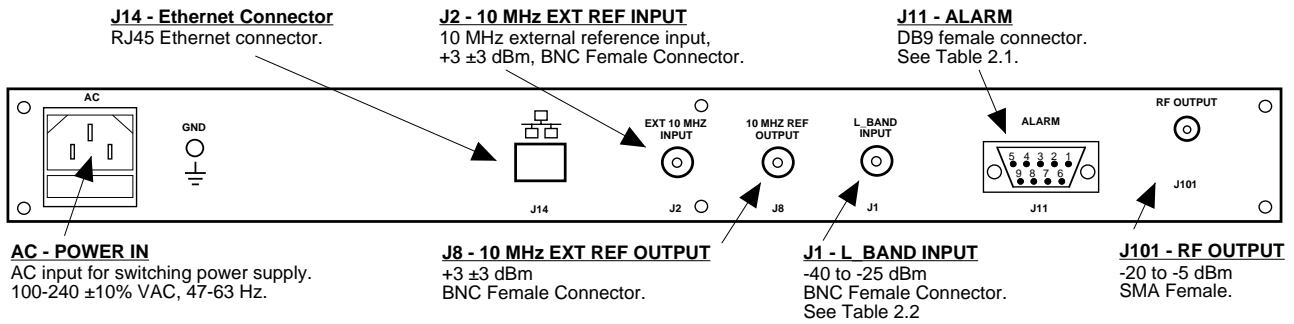

FIGURE 2.1 3115-107 Rear Panel I/O's
Figure 2.1 shows the input and output connectors on the rear panel.
1. Connect a -40 dBm to -25 dBm signal to L-Band IN, J1 (Figure 2.1).